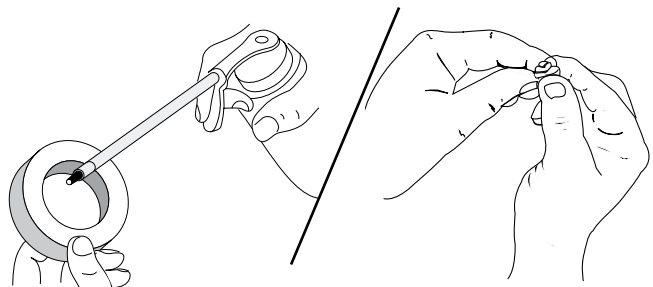

Figure 16
5. Apply enough clean SAE 30 oil to lightly coat the filter. See Figure 16.
6. Squeeze the filter to spread and remove excess oil. See Figure 16.